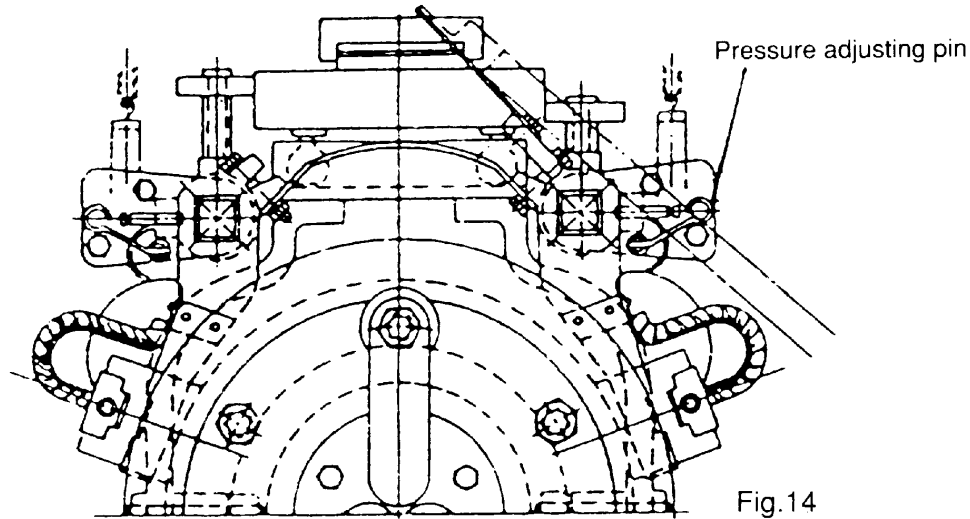

Fig.14
- The brush pressure may be reduced after use, so it is necessary to re-adjust. For adjustment, please turn adjusting screw, pressure adjusting pin or pressure adjusting plate as shown in Fig. 14 to obtain the correct tension ( $=0.23 \times \text{brush cross sectional area in cm}^2 \pm 10\%$  kg).